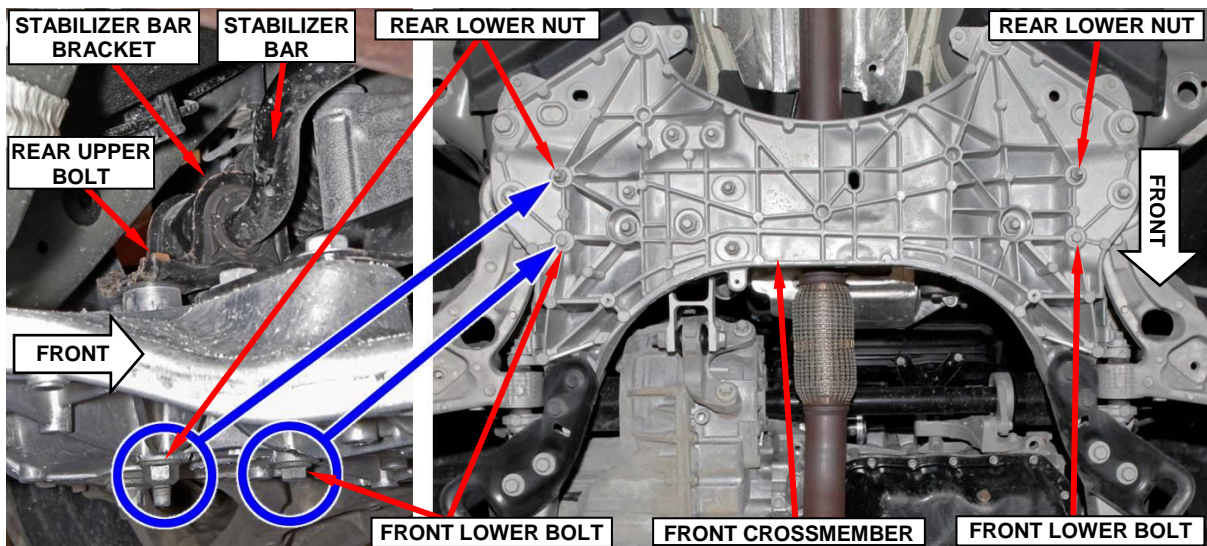

Figure 10 – Stabilizer Bar Bracket
13. Stabilizer bar bracket to the front crossmember fasteners on the left and right side of the vehicle. Rear fasteners, hold the bolt while tightening the nut to 38 ft. lbs. (51.5 N·m). Front fasteners, nut is caged and does not need to be held. Tighten the bolt to 41 ft. lbs. (55 N·m) (Figure 10).